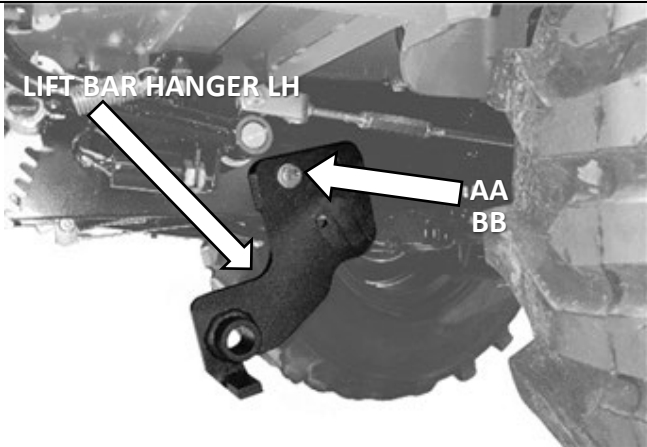

Figure 3A
2. Use bolt BB and washer AA (one each) to install the Lift Bar Hangers as indicated in (figure 3A). Torque to 55 ft-lb.